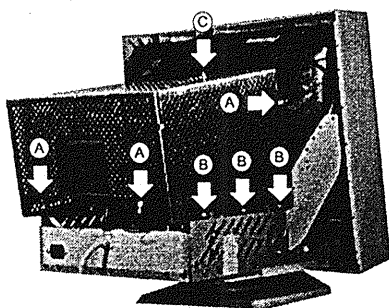

Figure 2-3 Remove the Shield (left side)
3. Disconnect the three ground wires from the shield. Refer to the figure 2-3 (A).
4. Remove the three screws from the shield. Refer to the figure 2-3 (B).
5. Cut the cable tie from the top shield. Refer to the figure 2-3 (C).